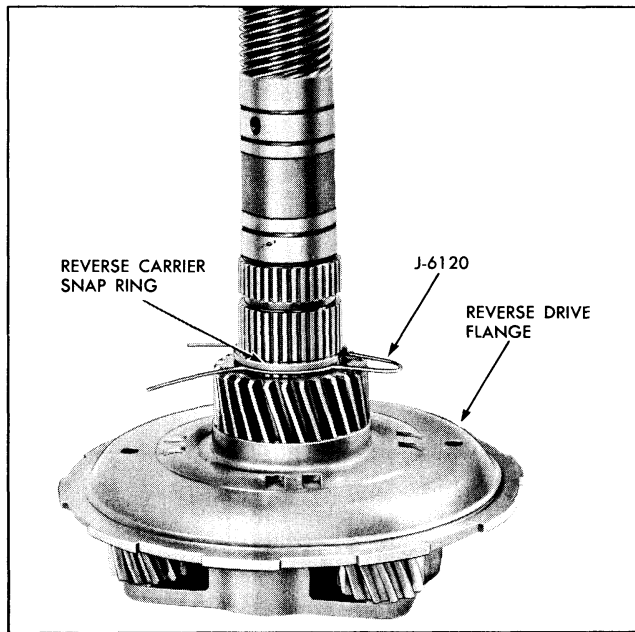

Fig. 7D-85 Reverse Drive Flange Retainer Tool in Position
9. Install output shaft and reverse drive flange assembly in rear unit drum and secure with large snap ring (Fig. 7D-87).